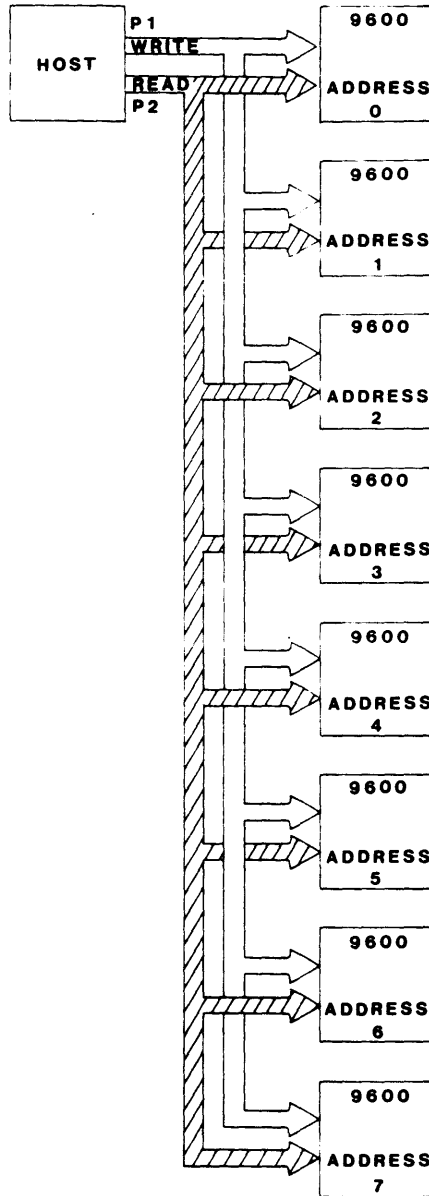

Figure 2-3 Daisy Chaining
- 1) Card Edge connectors: For single unit, two 50-pin edge-to-ribbon connectors without mounting ears are required. For daisy chains, two connectors are required for each unit (maximum 8 units - 16 connectors). (See Figures 2-3 and 2-4).